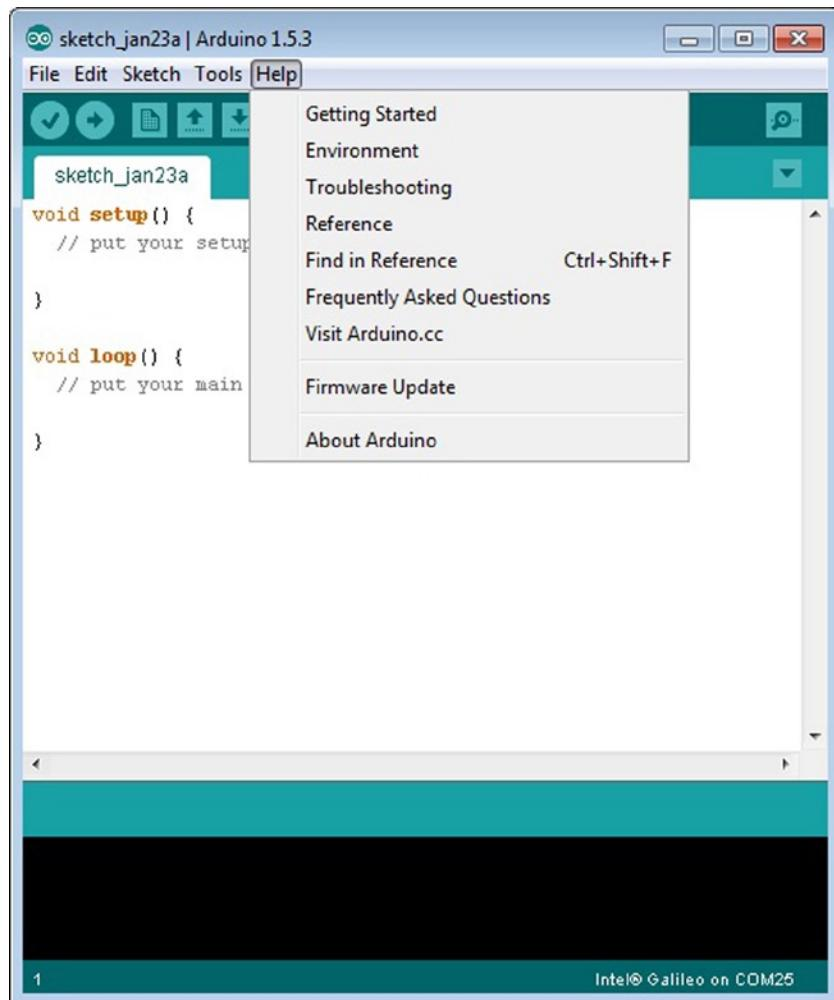

Figure 3-15. Firmware Update option in the Help menu
6. Select Help ▶ Firmware Update, as shown in Figure 3-15.